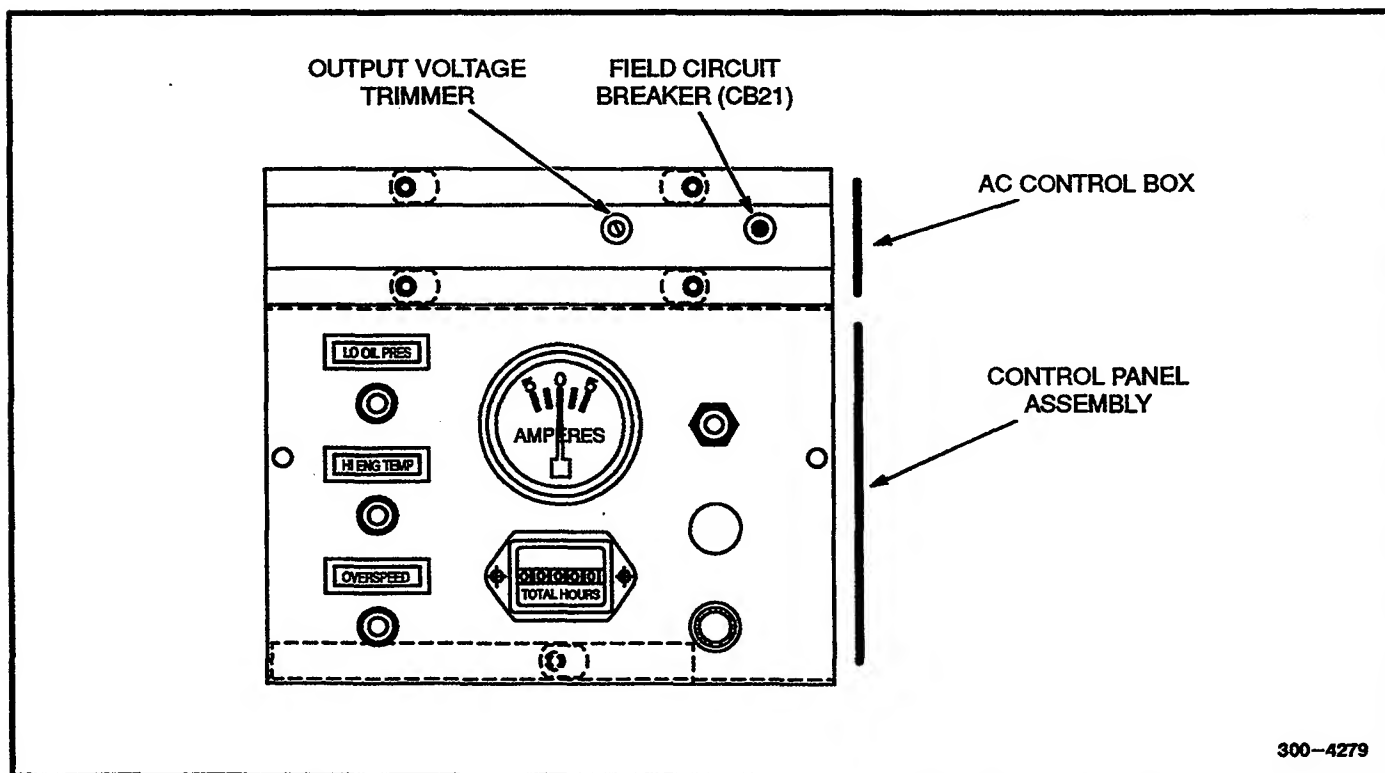
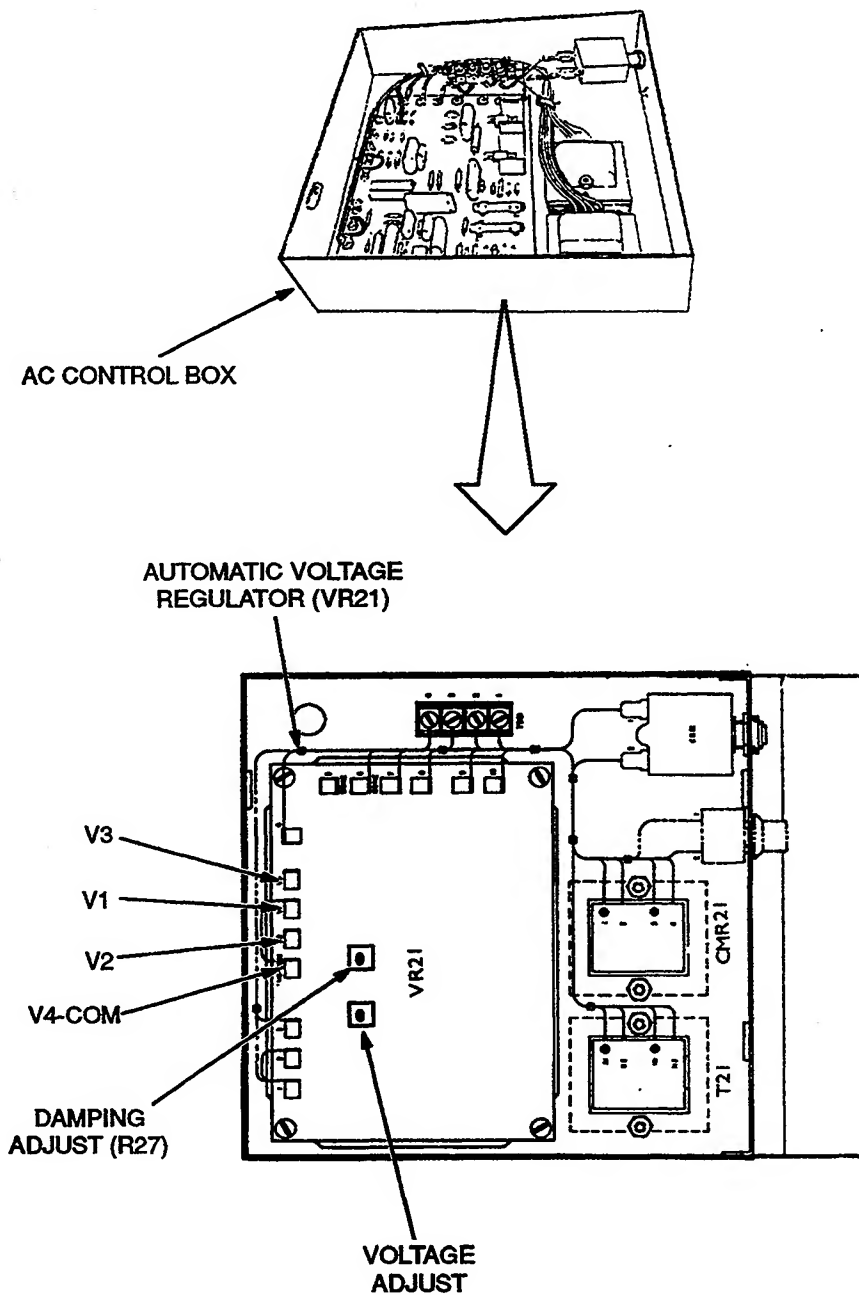
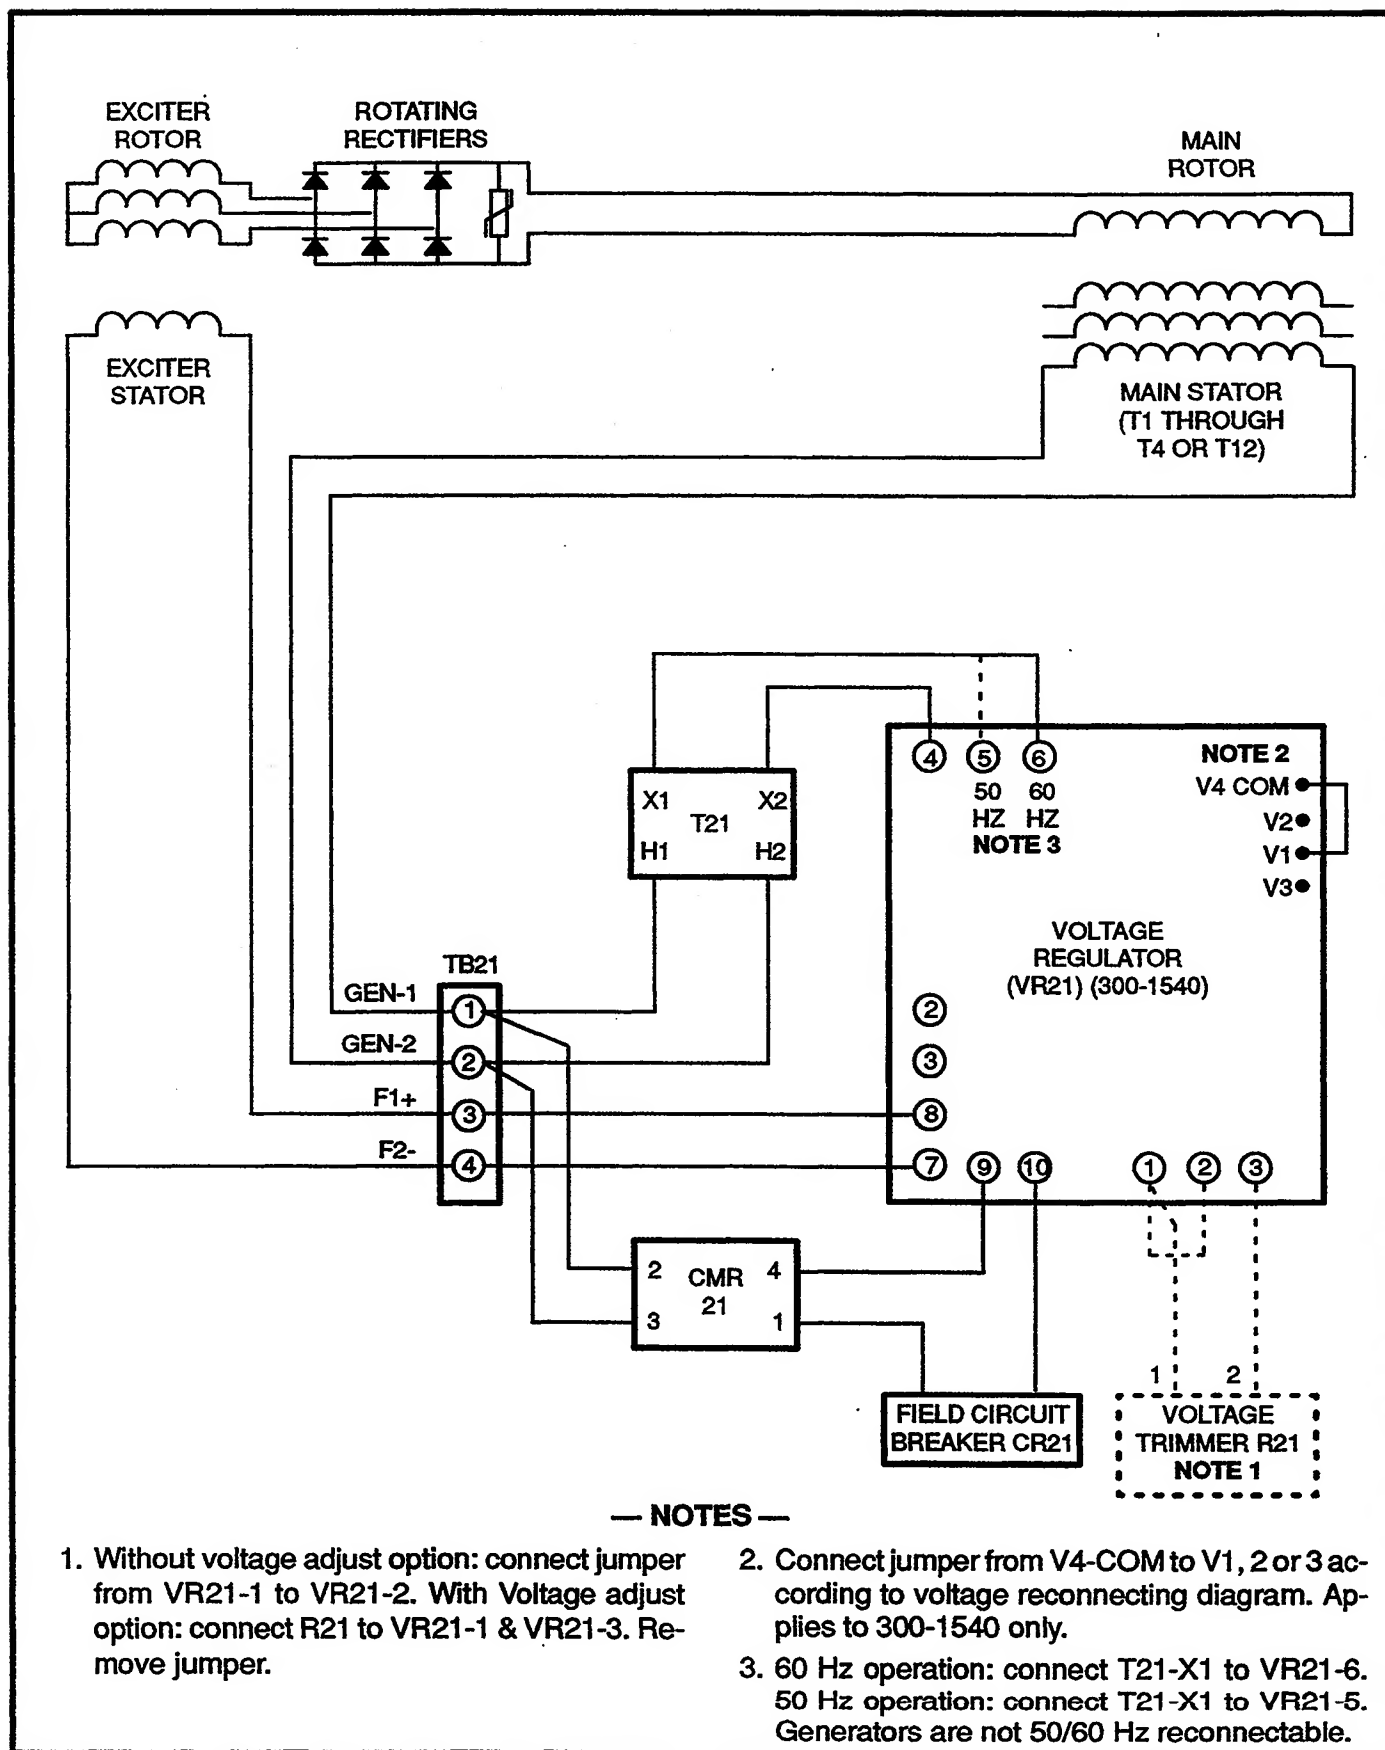

FIGURE 2-1. AC CONTROLS
FIGURE 2-3. AVR-A VOLTAGE REGULATOR
FIGURE 2-5. VOLTAGE REGULATING CIRCUIT USING AVR-A (P/N 300-1540)
This section describes the AC control components of the genset. The AC control box, which contains the AC controls and components, is mounted on top of the control panel assembly (Figure 2-1).
The voltage regulator controls the output of the generator so that a constant voltage is maintained under varying load conditions. There are two types of automatic voltage regulators used on these sets, which are shown in Figures 2-3 and 2-4. For reference purposes only, they are identified as **AVR-A** and **AVR-B**.
The automatic voltage regulator is mounted inside of the AC control box. It can be adjusted by means of the potentiometer (pot) shown in Figure 2-3 and 2-4. Figures 2-5 and 2-6 show typical voltage regulating circuits.
Use the control panel mounted output voltage trimmer (see Figure 2-1), if provided, for small voltage adjustments. Measure generator output voltage while the set is running without load at the nominal frequency. If the trimmer does not provide enough adjustment, set it at its midpoint. Then turn the **VOLTS ADJUST** pot (Figure 2-3 or 2-4) until rated voltage is obtained. Turn clockwise to increase output voltage; counterclockwise to decrease output voltage.
1. With generator set running at no load, turn potentiometer **R27** (Figure 2-3) to a position where voltage tends to be unstable or hunt.